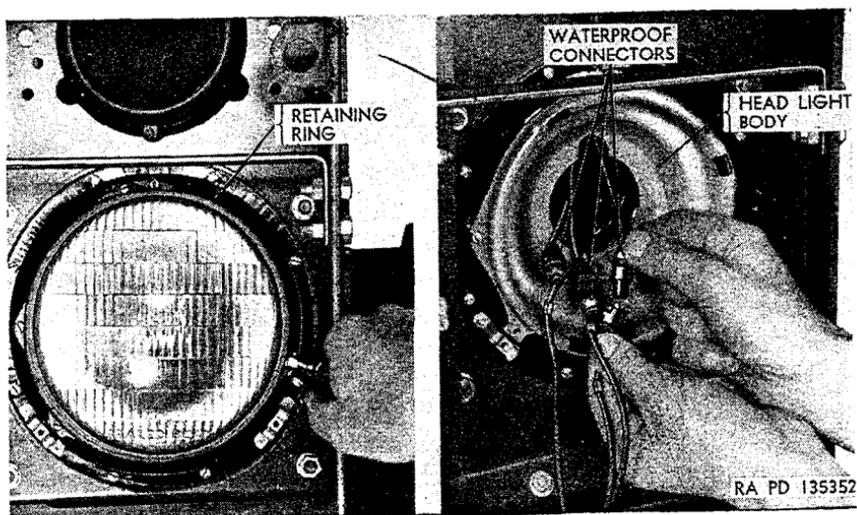

Figure 183. Removing headlight retaining ring and sealed-beam lamp-unit.
- (2) Remove three screws attaching retaining ring (fig. 183) to headlight body, and remove ring.
- (3) Pull sealed-beam lamp-unit from headlight body and disconnect cables at waterproof connectors (fig. 183).
- (1) Connect three cables at waterproof connectors (fig. 183) and position lamp-unit in headlight body.
- (2) Position retaining ring (fig. 183), install three screws, and tighten.